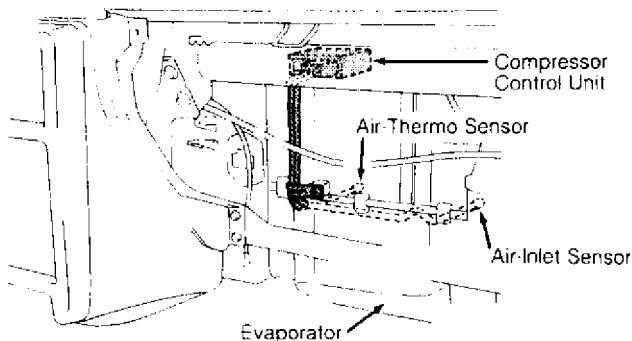

Fig. 2: Locating A/C Air Thermo & Air Inlet Sensors
7) Turn A/C switch to OFF position. Measure resistance of air thermo sensor. Resistance should be approximately 1000 ohms or greater at 77°F (25°C). Measure resistance of air inlet sensor. See Fig. 2. Resistance should be approximately 1000 ohms or greater at 77°F (25°C). If resistance is not as specified, replace appropriate sensor.
8) Start engine and turn A/C switch on. Idle speed should increase immediately after A/C switch is turned on. If idle speed does not increase, suspect malfunction of idle speed control (1.5L engine), stepper motor (1.6L engine) or engine control unit. If idle speed increases, replace the A/C compressor control unit. See Fig. 2.
1) Remove sensor connector from A/C compressor control unit (located above evaporator housing). See Fig. 2. Using an ohmmeter, measure continuity between connector terminals. Resistance should be within specification. See AIR THERMO & AIR INLET SENSOR SPECIFICATIONS table.